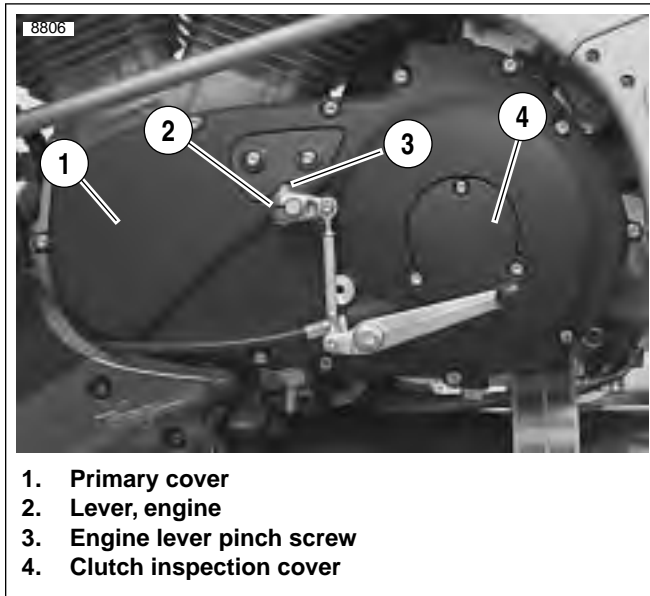

Figure 6-7. Installing Primary Cover
- See Figure 6-7. Install clutch inspection cover (4) with **new** gasket and three TORX screws with washers. Tighten screws in a crosswise pattern to 84-108 **in-lbs** (9.5-12.2 Nm).